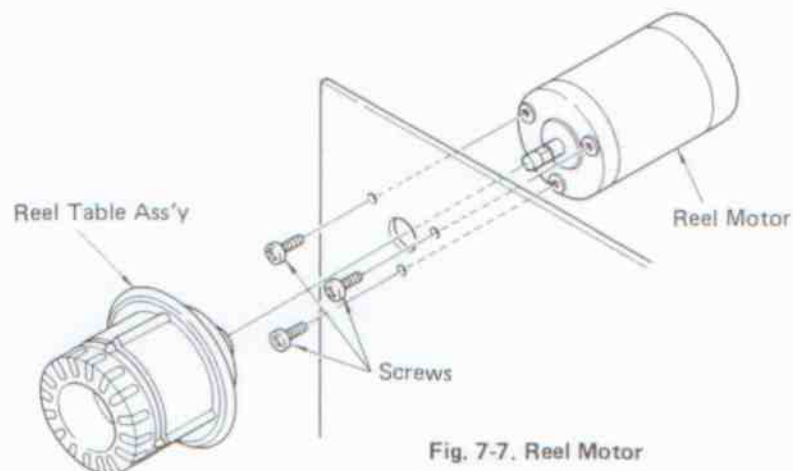

Fig. 7-7. Reel Motor
1. After removing the front panel as described in 7-4-1 (B), remove the reel table assembly and as shown in Fig. 7-7, remove the three screws holding the reel motor.